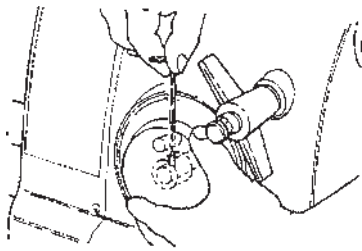

Figure D-11
- d. Remove the speed control handle. With the access hole in the side of the speed control handle facing up, insert a $3/32"$ Allen wrench or a slotted screwdriver in the hole and loosen the setscrew holding the handle to the worm control shaft, as seen in Figure D-11.